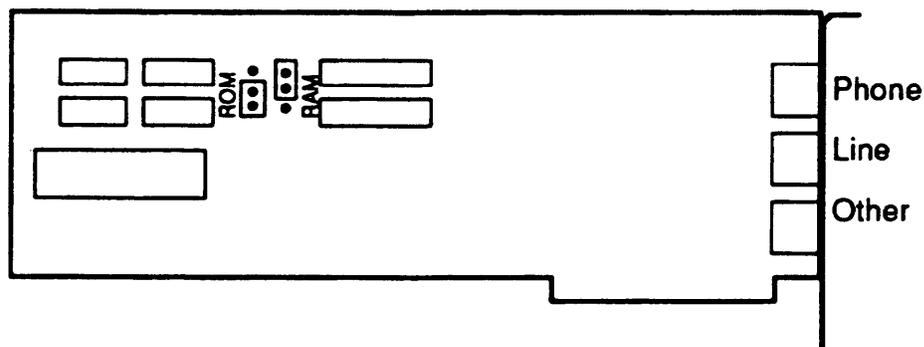

Figure 2-29. Location of Jumpers on DCP Board
1. Check the jumpers on the DCP board. The jumpers should be set as shown in Figure 2-29.